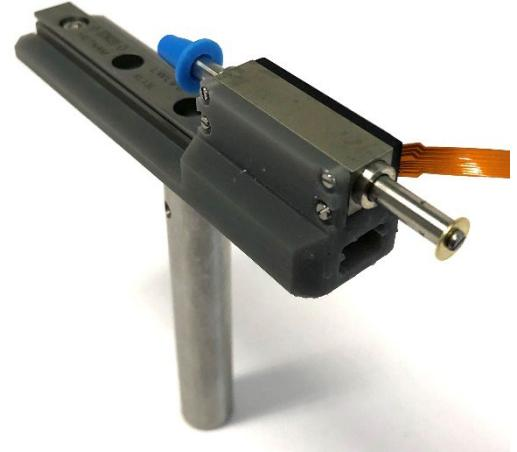

Figure 45 Motor mount with motor installed.
- See Figure 45 for the results of this step.